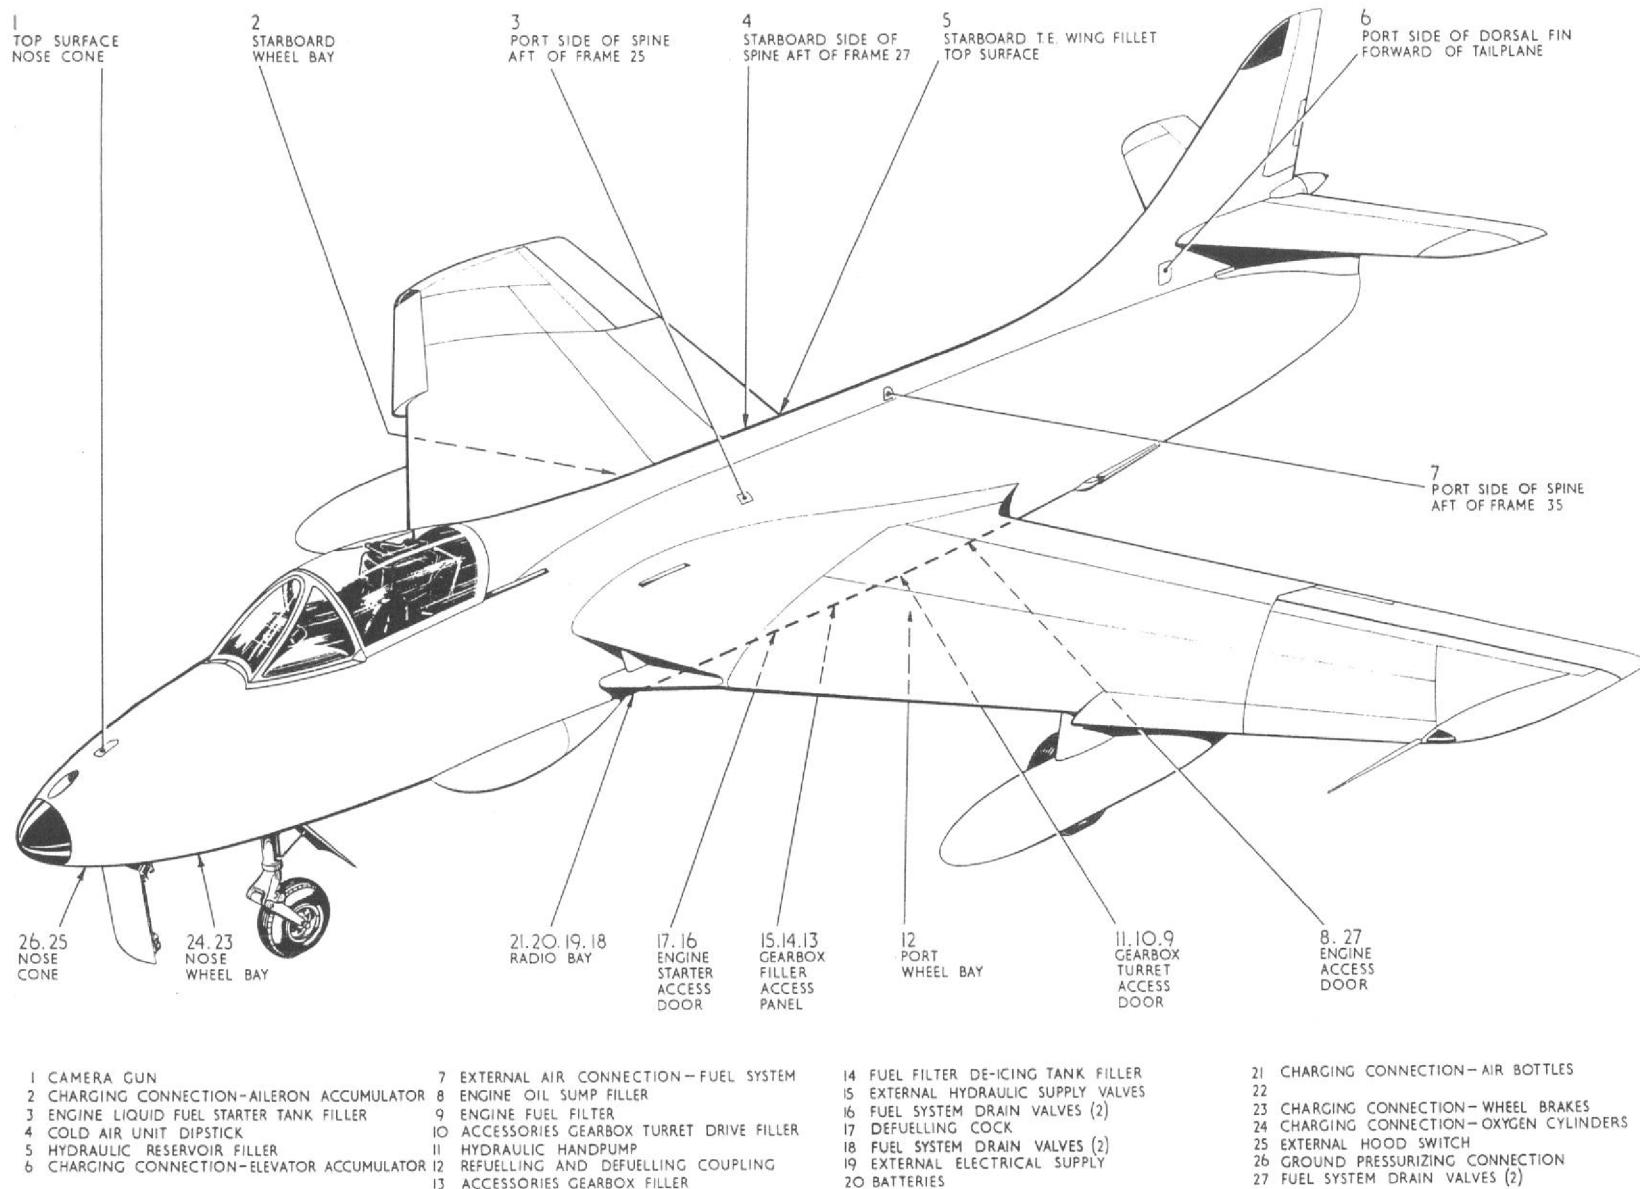

Fig. 2 Servicing points
4. The aircraft is defuelled through the refuelling coupling in the port wheelbay, being either sucked out by a refueller or pumped out by the tank booster pumps. An air pressure supply is required to transfer the fuel from the main, wing and drop tanks to the front tanks during this operation. The air pressure, which must not exceed 120 lb. per sq. in. is fed into the system through an external supply connection in the spine of the centre fuselage (fig.2, item 7). The procedure for defuelling the aircraft is as follows:-
- (3) Set the refueller control to DEFUEL.
- (4) Turn the L.P. cock to OFF and the selector cocks to AUTO. Connect an external power supply or set the battery master switch to ON. Set the engine master switch to ON.
- (5) Remove the locking pin from the lever of the defuelling cock, disengage the hinged locking plate from the lever and turn the cock (fig.2 item 17) to ON.
- (6) Start the refueller pump to draw out fuel.
- (7) As soon as the refueller commences to suck air, switch on the booster pumps to ensure that all fuel in the system is drained off. Switch off the booster pumps as soon as the refueller commences to suck air again and stop the refueller pump. Disconnect the external power supply or set the battery master switch to OFF. Set the engine master switch to OFF.
- ¶ (8) Turn the defuelling cock to OFF, move the hinged locking plate to engage with the lever of the cock and lock in position with the locking pin.